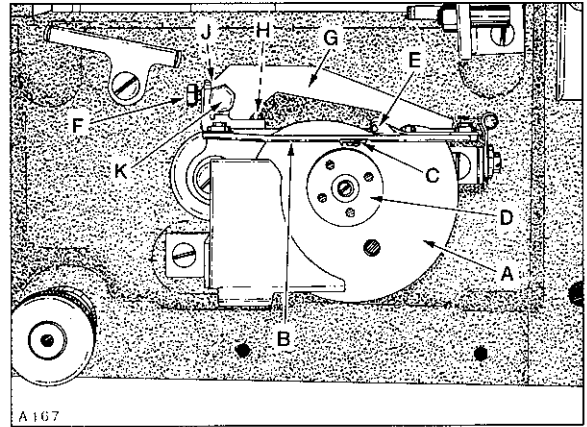
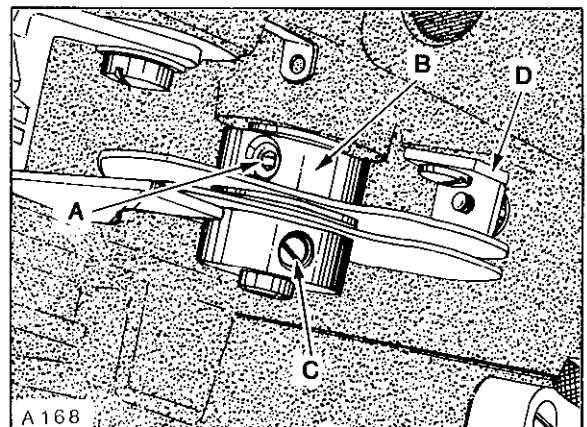

Fig. 37
Fig. 38
Looper thread take-up (A, Fig. 37) should be centered front to back in cast-off plate (B). It should also be positioned so as the needle bar is descending, looper thread is "cast-off" the highest lobe of looper thread take-up when the tip of left needle is even with the bottom of looper blade.
If adjustment is required, lift cast-off plate up. Loosen screw (A, Fig. 38) in positioning collar (B) and two screws (C) in looper thread take-up. Advance or retard looper thread take-up as required and tighten screws (C) assuring that take-up is centered in cast-off plate. Positioning collar (B), which has a slot in its face, must be aligned with two screws which secure the discs of take-up together while THRUSTING positioning collar forward against take-up. Remove the play between screw heads in take-up and slot in positioning collar by applying pressure on the collar CLOCKWISE while tightening screws (A) securely. Cast-off plate (B, Fig. 37) should be positioned with .004 inch (0.1mm) clearance between cutting edge of looper thread anti-wrap-up knife (C) and hub (D) of looper thread take-up, which can be adjusted by repositioning latch (D, Fig. 38). Set adjustable eyelets (E, Fig. 37) in the center of their mounting screws. More or less looper thread can be supplied in the stitch by moving adjustable eyelets to the right or left respectively.